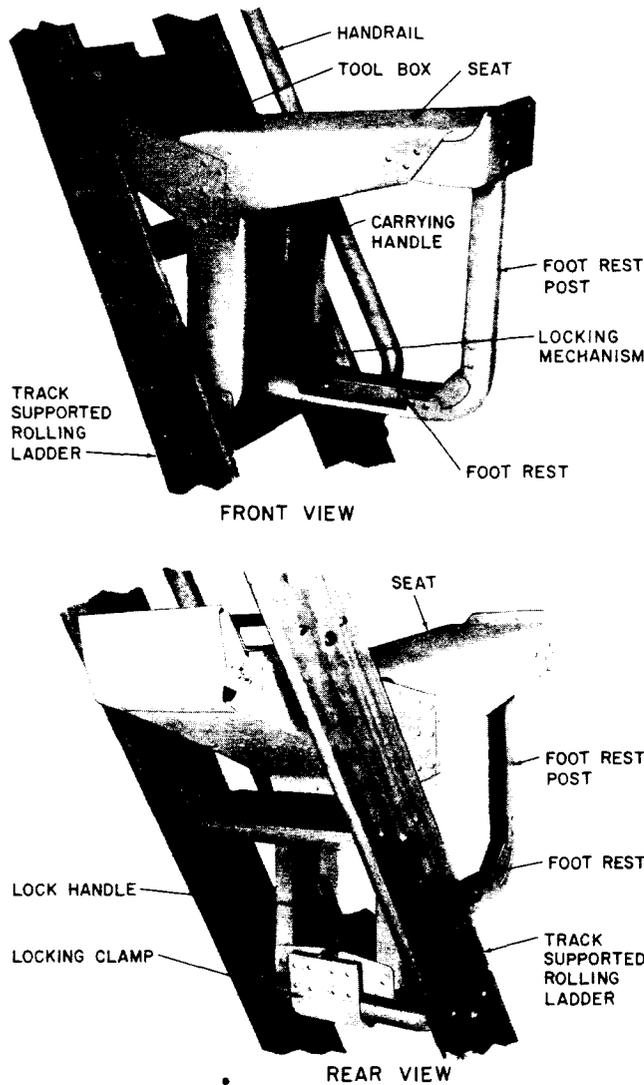

Fig. 12—KS-5173-02 Ladder Seat in Place (Front and Rear Views)
3.43 A metal ladder seat KS-5173-02, as shown in Fig. 12, is placed on a ladder in the following manner.